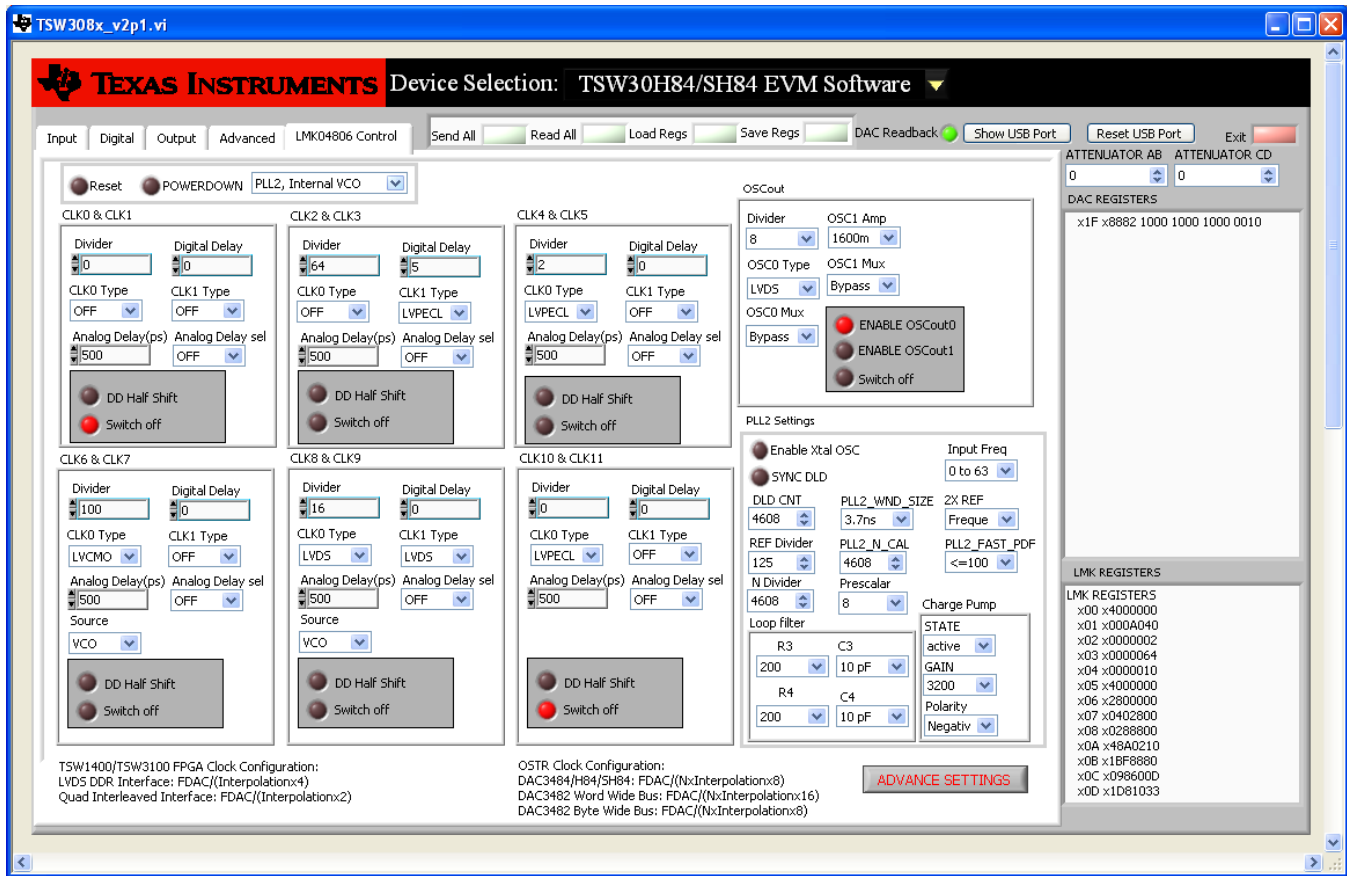

Figure 6. LMK04800 Tab Control Options
5. Click on *Send All* to write all of the values to the devices. If the LMK04808B is programmed properly in single PLL mode, the *LMK LOCK LED* (D7) near the device will be illuminated. The updated register configuration for the LMK04808B now appears as shown in Figure 6.